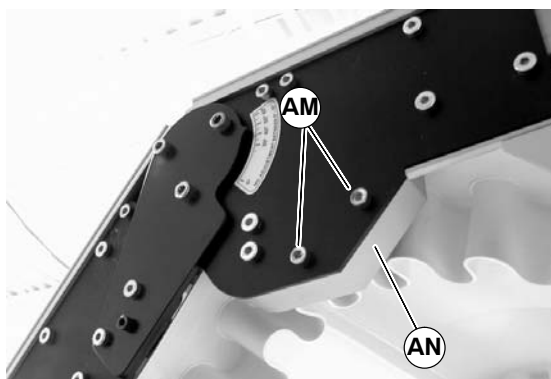

Figure 84
1. Remove screws (AM of Figure 84) on both sides of knuckle and remove guard (AN).